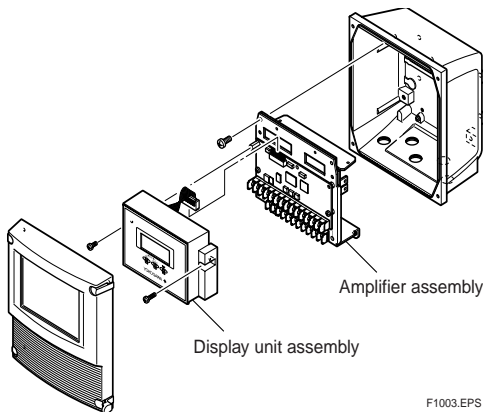

Figure 10.1.3 Amplifier Assembly
- (1) Turn off the power.
- (2) Remove the cover.
- (3) Remove all cables that are connected to the terminals.
- (4) Remove the display unit as described in Section 10.1.2.1.
- (5) Loosen the amplifier assembly's four screws while supporting it with your hand (See Figure 10.1.3).
- (6) Pull the amplifier assembly straight out.
- (7) When reassembling the amplifier assembly, return it to its original position and secure it in place using the reverse procedure to that described above.